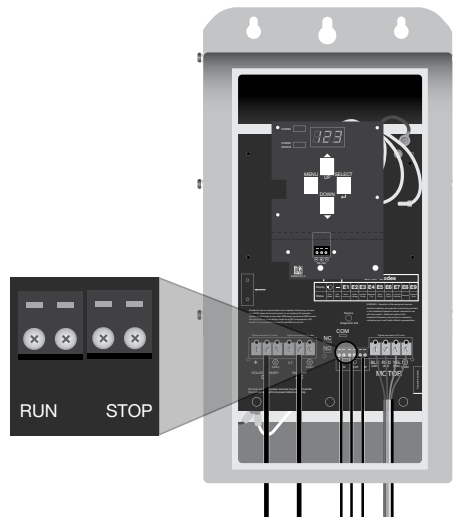

Figure 9. Control Switch Wiring Connection
2. Connect the cables from the "RUN" control switch to the Terminal Block labeled "RUN" (Figure 9).